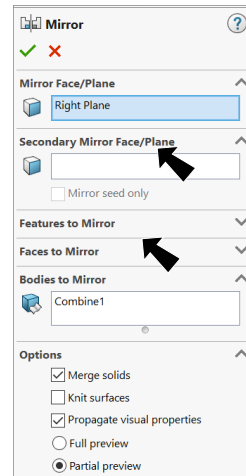

Fig. 29
Step 3. In the Mirror Property Manager click OK , **Fig. 29**.